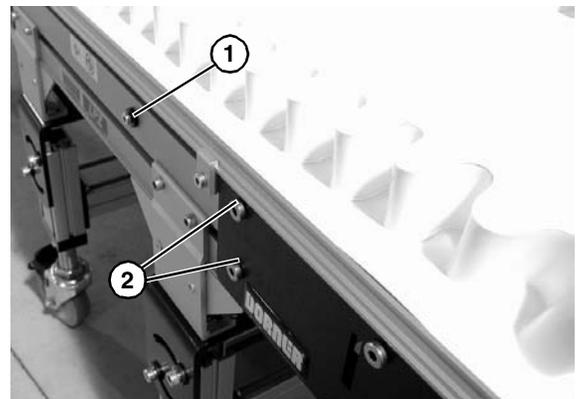
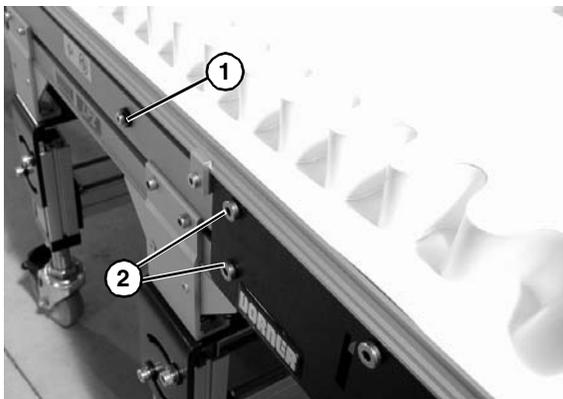

Figure 37
Figure 42
1. On tension end of the conveyor, identified by the pinion locking screw (**Figure 37, item 1**), loosen the two tail clamp bolts (**Figure 37, item 2**), on both sides of conveyor.
2. With 5mm hex wrench, hold pinion torque screw (**Figure 38, item 1**). Loosen the pinion locking screw (**Figure 37, item 1**) and turn the pinion torque screw (**Figure 38, item 1**) to extend head plate assembly.
- After adjusting proper tensioning, tighten the pinion locking screw (**Figure 37, item 1**) to 69 in-lbs (7.8 N-m), and tighten tail clamp bolts (**Figure 37, item 2**) on both sides of conveyor to 146 in-lb (16.5 N-m).
1. Ensure tensioning racks are extended and touching the idler pulley headplates: loosen the pinion locking screw (Figure 37, item 1) and rotate the pinion torque screw (Figure 38, item 1) clockwise until contact with the head plate is made, then tighten the pinion locking screw (Figure 42, item 1) to 69 in-lb (7.8 Nm)
2. On the side of conveyor to be adjusted, loosen two (2) tail clamp screws (Figure 42, item 2).